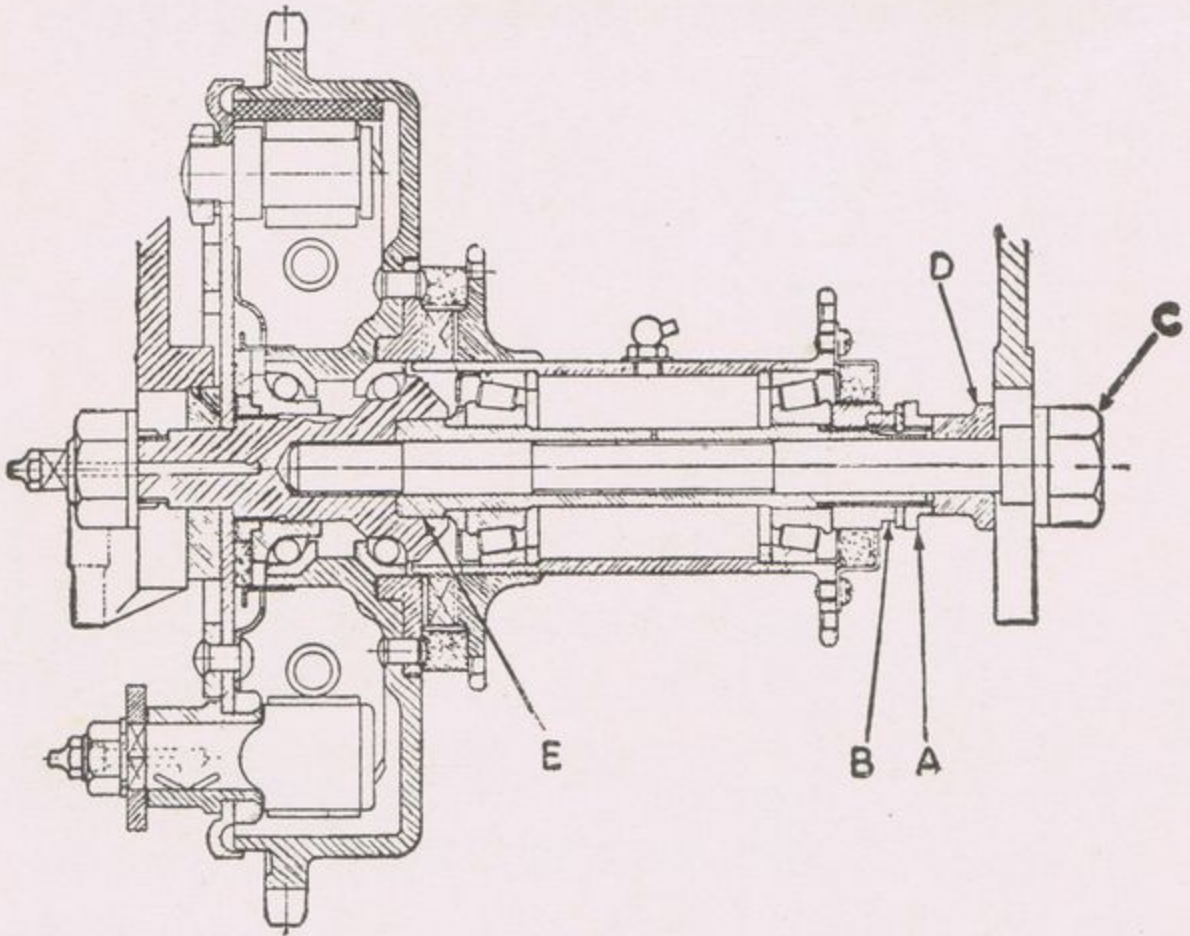

Fig. 12.
**Dog Coupling Type** (Fig. 12). To remove the wheel it is only necessary to unscrew the wheel bolt *C* on the right-hand side of the hub and draw this nearly out. Then, using the projecting bolt as a handle, slide it to the rear, carrying with it the distance piece *D*. When this is drawn clear, the wheel should be moved bodily to the right, until it clears the driving dogs and it can then be withdrawn to the rear. Adjustment of the wheel bearing is carried out in a manner similar to that described in the previous paragraph, except that while the adjustment is being made the hollow spindle must be held by a spanner on the flats *E*. The chain-